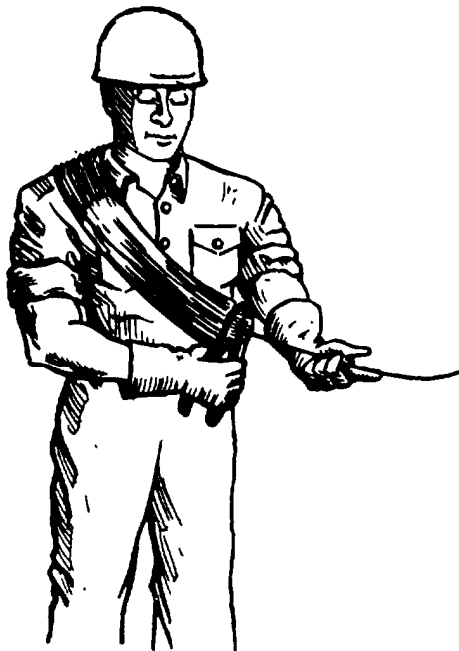

Figure 7-21.-Carrying tie wire.
**CARRYING WIRE.**— When tying reinforcing bars, you must have a supply of tie wire available. There are several ways you can carry your tie wire. One way is to coil it to a diameter of 18 inches, then slip it around your neck and under one arm (figure 7-21). This leaves a free end for tying. Coil enough wire so it weighs about 9 pounds.